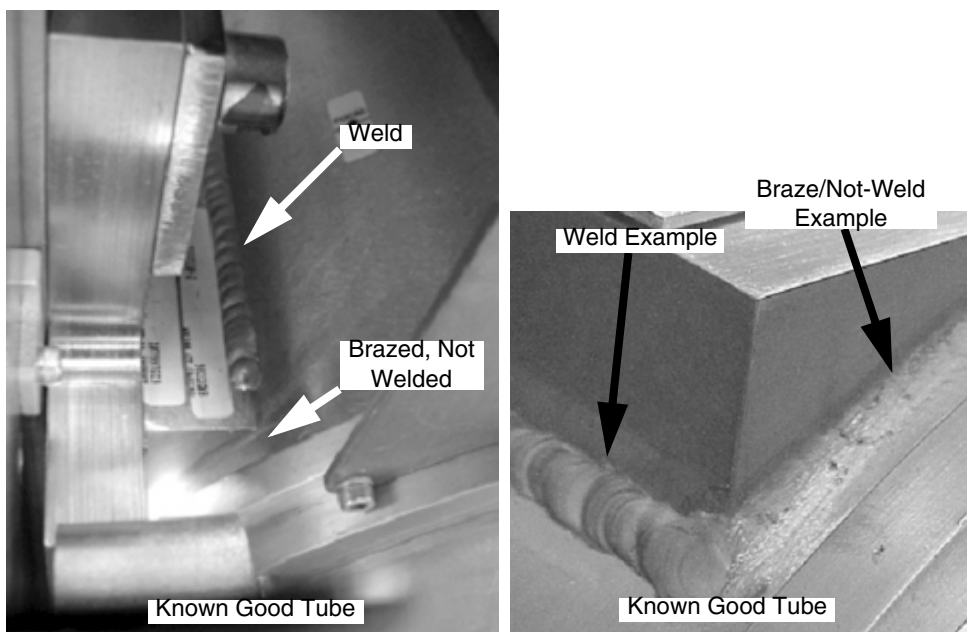

Figure 2 - Weld on one side; Close up of Braze/Not-Weld and Weld (right) - Inspection Passes, No Problem with this tube casing. Go to "FMI Completion".
The photo at the right of Figure 2 shows an example of a Braze that does not look smooth, but is still different from a weld. This is intended to improve proper identification of a weld.
- b.) If the welds are *not* on all sides, as shown in Figure 2, then: